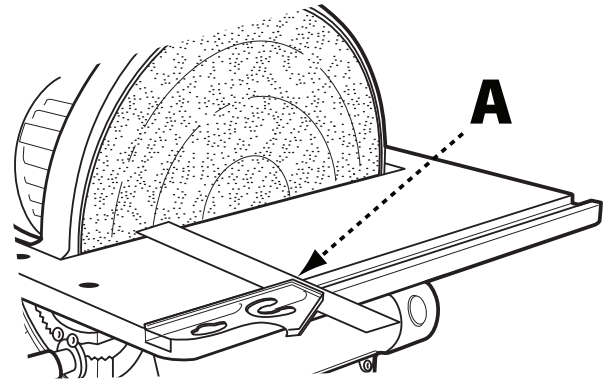

FIGURE 11
- Check to see if the miter gage slot (A), shown in Figure 11, is parallel with the disc by placing a combination square in the miter gage slot with one end of the square against the disc as shown.